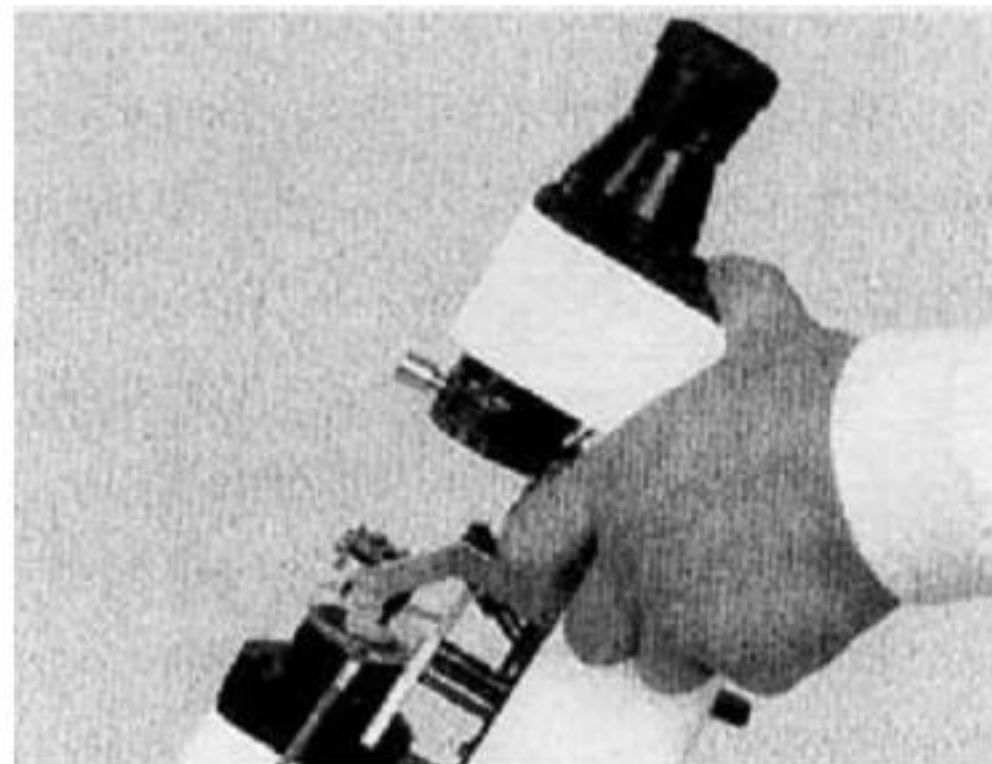

Fig. 7
3.5 Lens pressing unit (Fig.7)